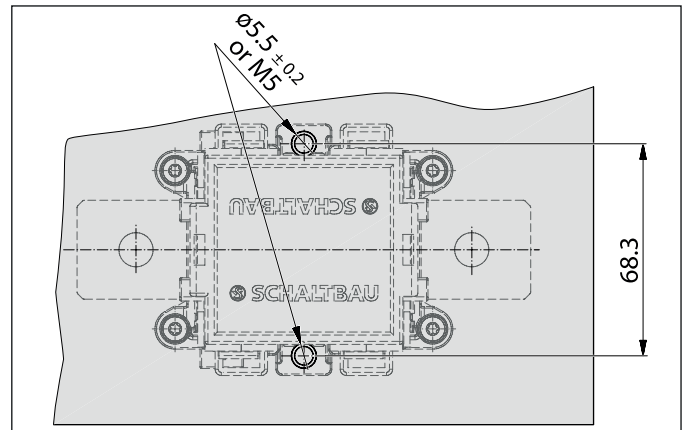

Fig. 1: Dimensions and layout of mounting holes
- ▶ A suitable mounting plate with 2 mounting holes in accordance with the following dimensional drawing (*Fig. 1*) must be provided for fastening of the contactors.